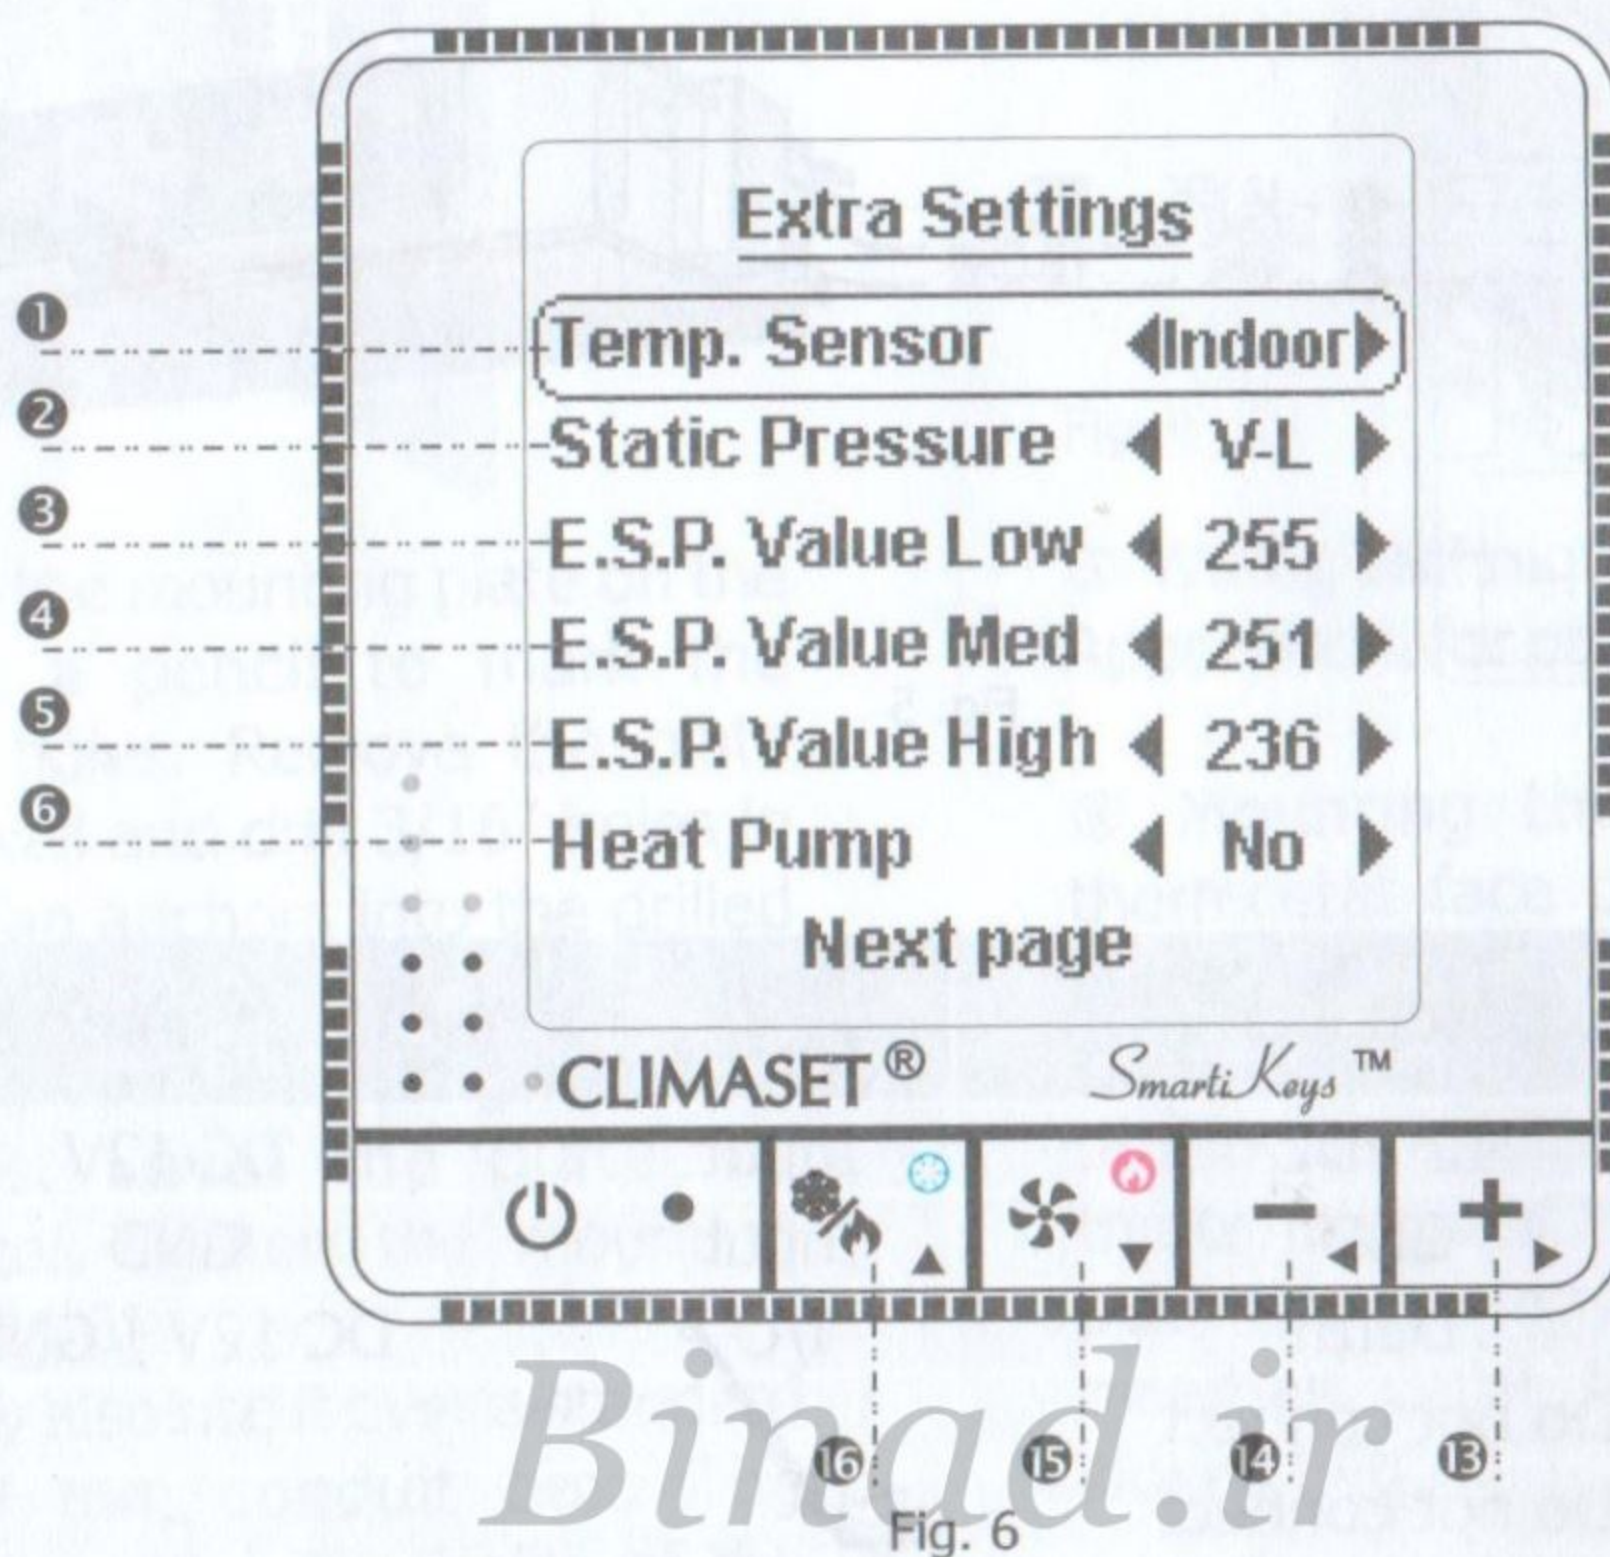
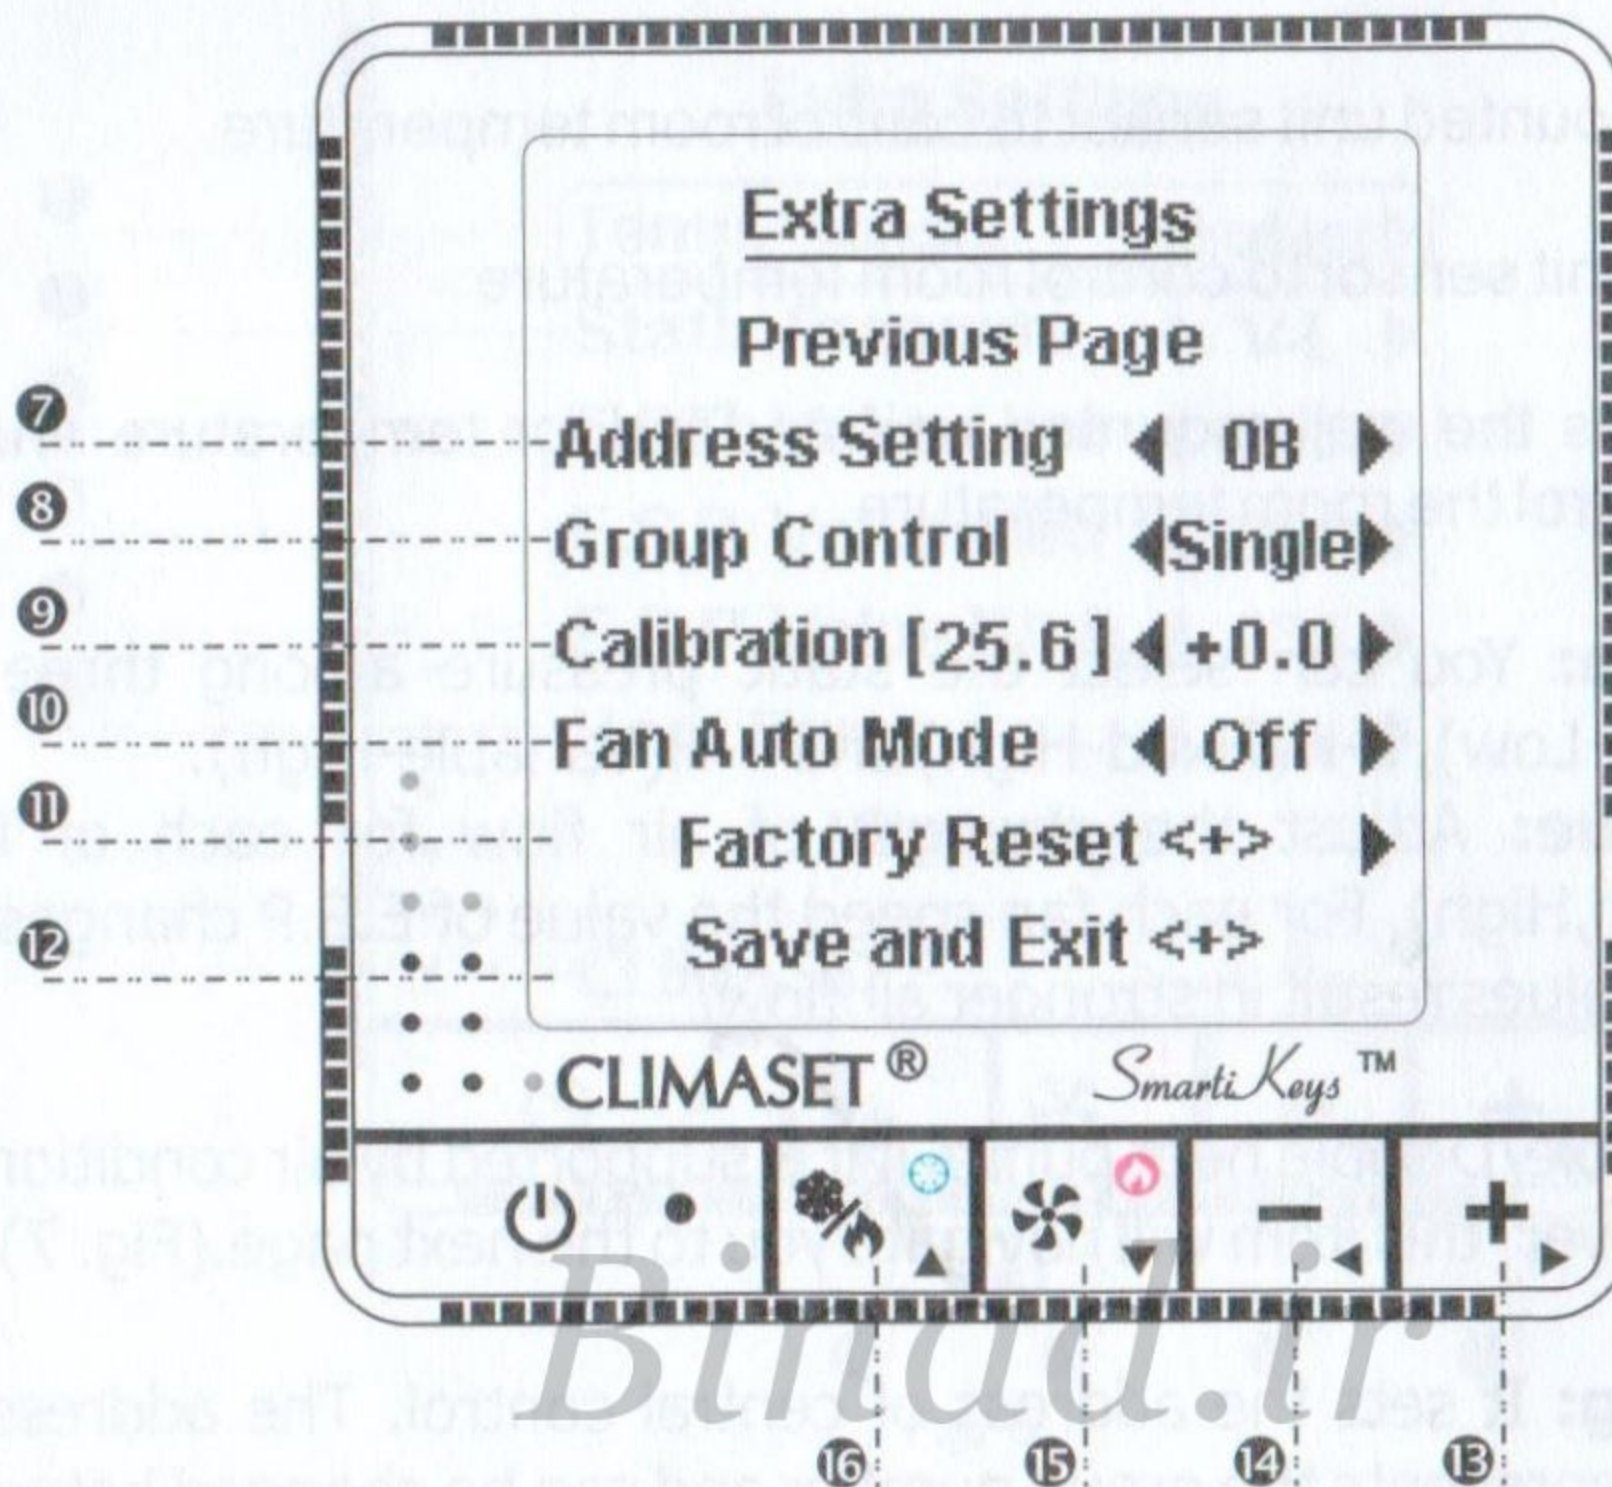

Fig. 6
Fig. 7
You may navigate through the rows by pressing "▼" (15) or "▲" (16). Each row displays the settings for its respective parameter. "Extra Settings" consists of two pages as illustrated in Fig. 6 and Fig. 7. The last two rows of the last page are used to restore factory settings and save and exit. (Fig. 7)
❶ **Temperature sensor:** Use this option to select which temperature sensor measures the room temperature as below.
❷ **Static Pressure:** You can select the static pressure among three different modes. V-L(Variable-Low), F-H(Fixed-High) and V-H(Variable-High).
❸,❹,❺ **E.S.P Value:** Adjust the strength of air flow for each of three fan speeds(Low,Medium,High). For each fan speed the value of E.S.P changes between 0 and 255. Smaller values result in stronger air flow.
❻ **Heat Pump:** Enable/Disable heat pump, if it is supported by air conditioner unit.
✎ Pressing "▼" (15) over this item will navigate you to the next page. (Fig. 7)
❼ **Address Setting:** It sets the address of central control. The address has two digits. The left one represents the group number and can be changed between 0 and F by pressing "◀" key. The right digit shows the indoor unit number and can be
changed between 0 and F by pressing "▶" key.(Fig. 7)